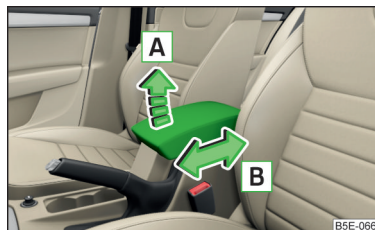

Fig. 85
- To **adjust the height**, lift the armrest in the direction of the arrow **A** into one of the locking positions » Fig. 85.